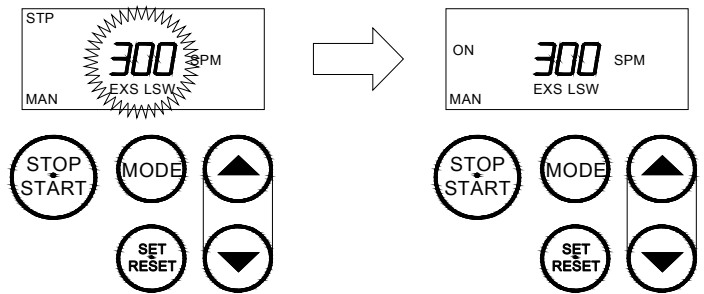

Fig. 12-2 Manual mode setting
Set number of strokes in advance to operate the pump in this mode. The first indication on the LCD when the power for the LCD is turned on, is as shown at the left of Fig. 12-2, and the indication on the LCD when operation is performed after setting is as shown at the right of Fig.12-2.
- 3) LCD indication 300 flashes and a part to Fig.12-2 Manual mode setting be_set is highlighted.
The right of Fig.12-2 shows that 300 strokes are set.